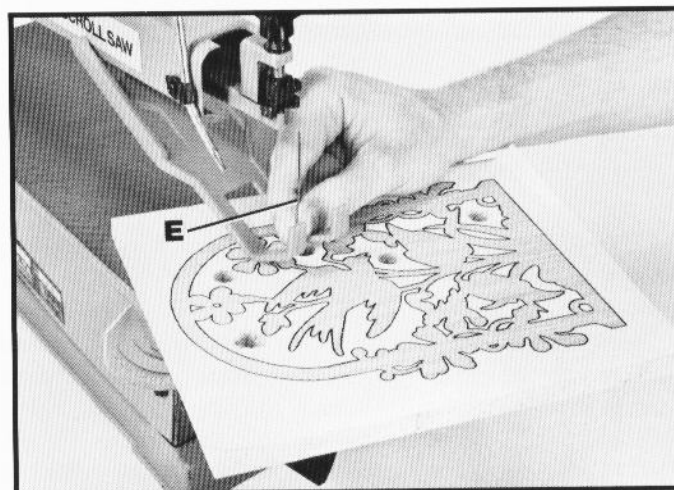

Fig. 36
4. Drill a hole in the scrap piece of the inside cut, and thread blade (E) Fig. 36, through this hole.